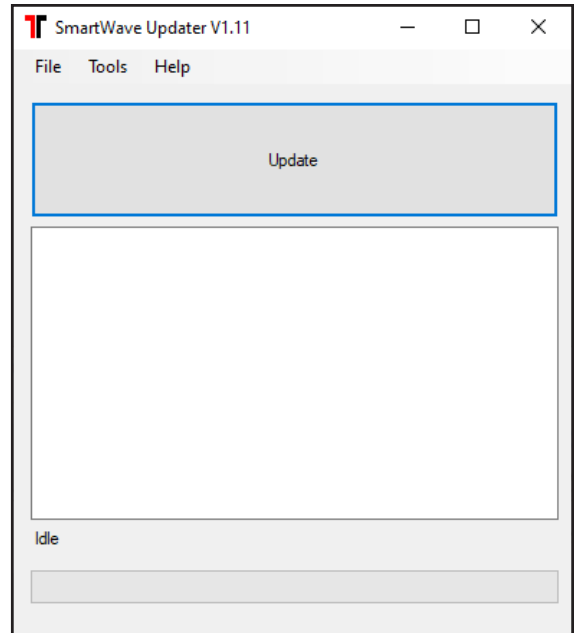

Figure 9 – SmartWave Updater
3. Select the *Update* icon. See *Figure 9*.